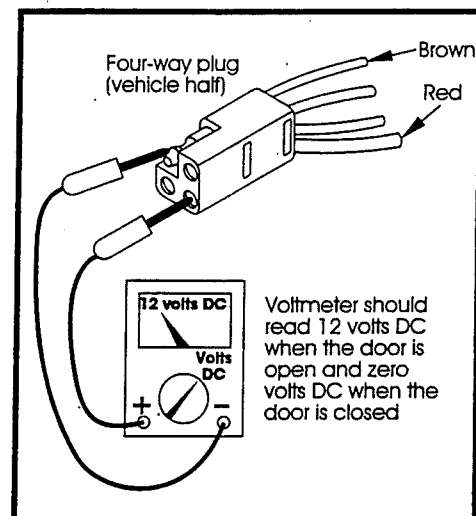

Figure 9
15. To check the door switch, connect the voltmeter between the red wire from the four-way plug (vehicle half) and the brown wire in the same plug (see Figure 9). The voltage should be about 12 volts DC (the same as in step 13) when the door is open and zero (0) when the door is closed.